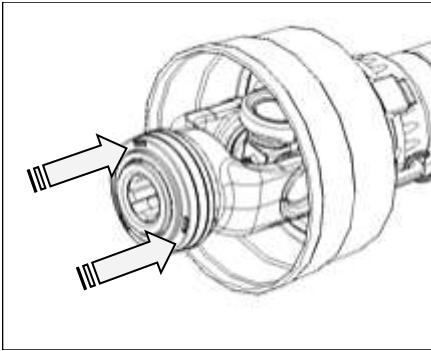

Fig. 25
2. The driveshaft universal joint couplings have spring loaded external collars that operate locking components inside the yoke. When the collar is retracted the locking elements are able to move clear and allow the coupling to fit onto the splined gearbox or tractor PTO shaft (Fig. 25).